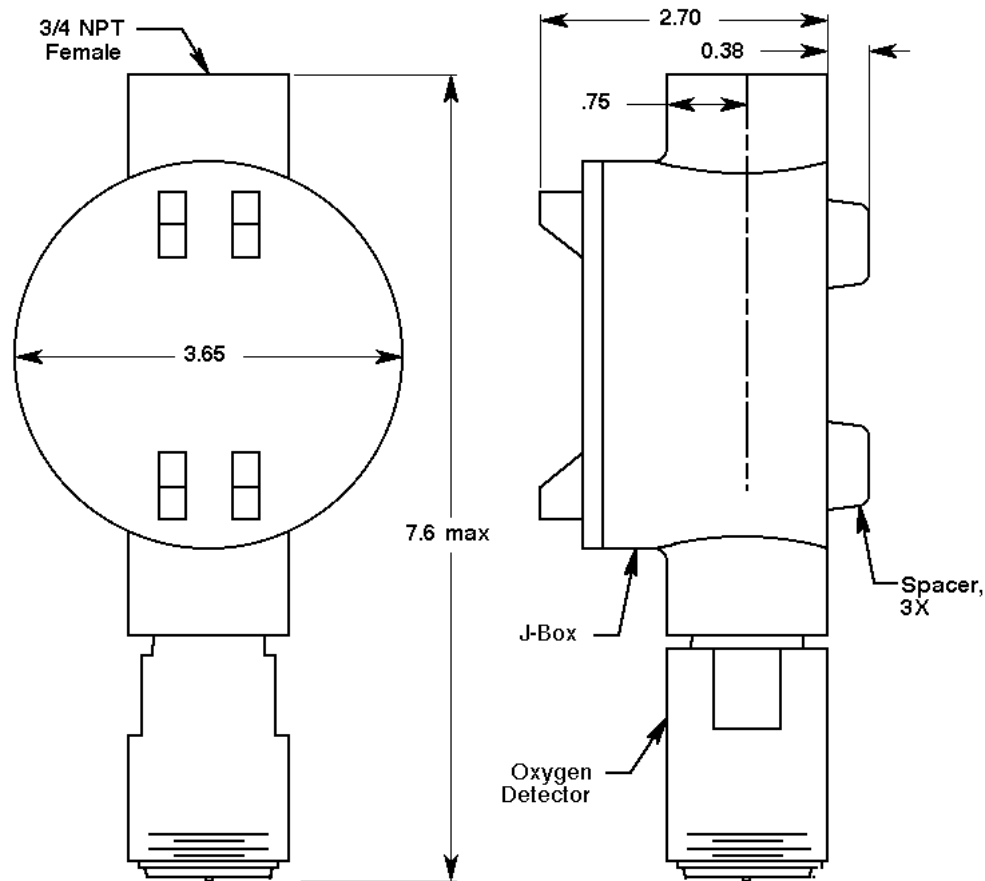

Figure 1: Mounting the Oxygen Detector
2. At the mounting site you select, hang or mount the junction box with the detector facing down (see Figure 1).)